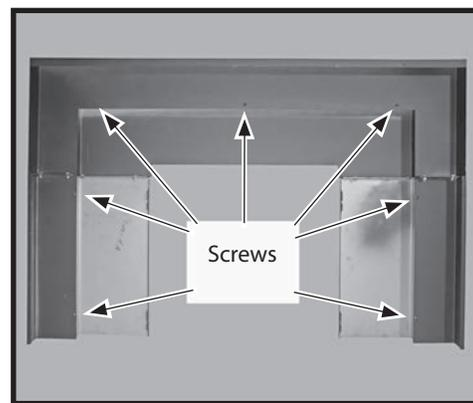

Fig. 4: Completed surround rear side.
4. Lay the newly assembled larger surround extension face down on top of the regular surround and align the screw holes. Attach the two surrounds using supplied Philips screws (Fig. 4).